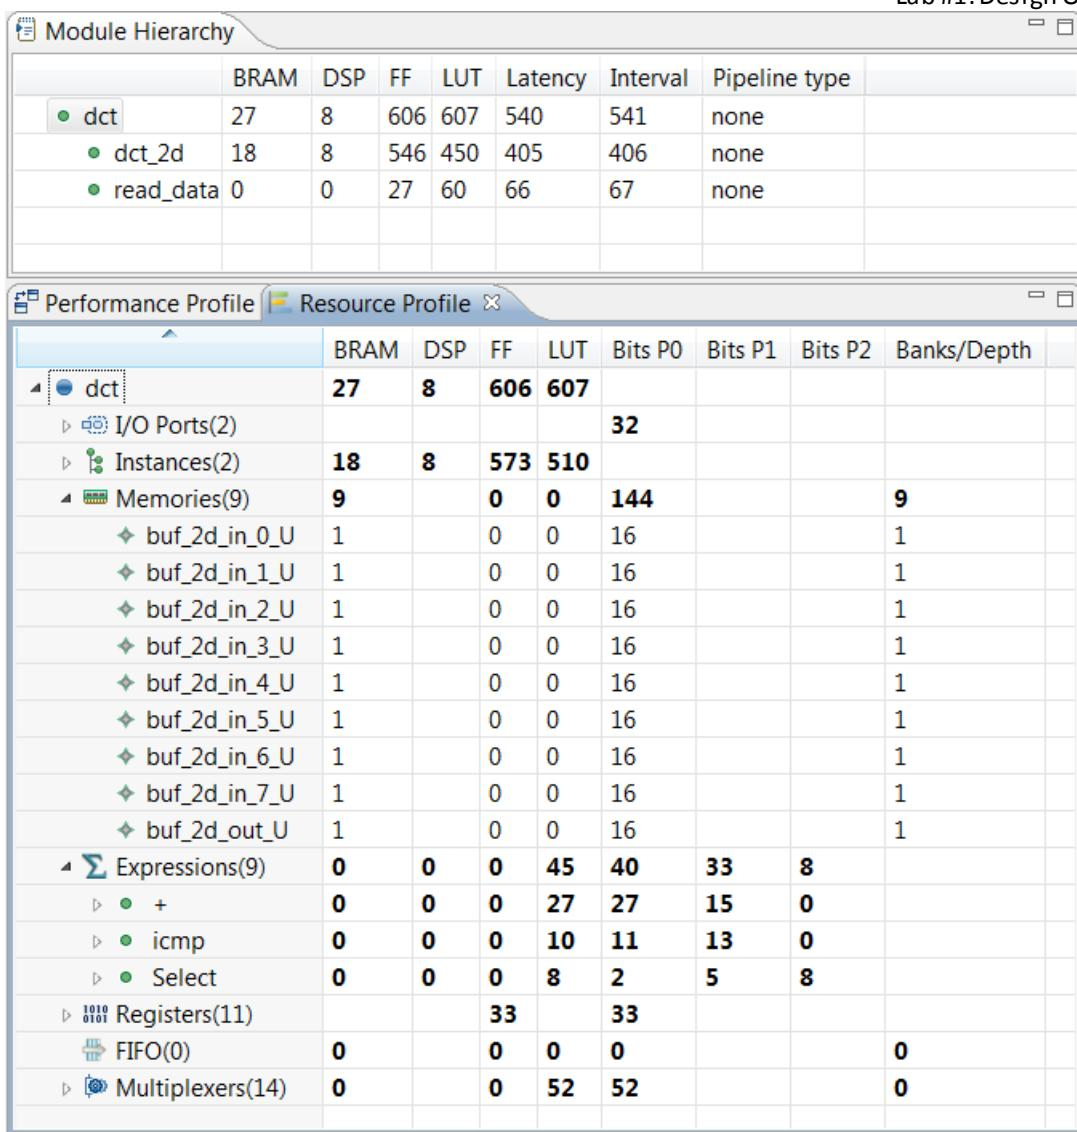

Figure 134 DCT Resource Profile
11. Expand the Memories and Expressions see the view in Figure 134.
The Resource Profile shows the resources being used at the current level of hierarchy (the block selected in the Module Hierarchy pane). Figure 134 shows:
As compared with Figure 134, we can see there are now twice as many memories at this level of hierarchy (18 vs. 9). Each of the memories has been transformed into a Ping-Pong buffer to support dataflow. In this case, no “new” memories were added, the existing memories were converted into dataflow Ping-Pong memory channels: this doubled the number of BRAM.